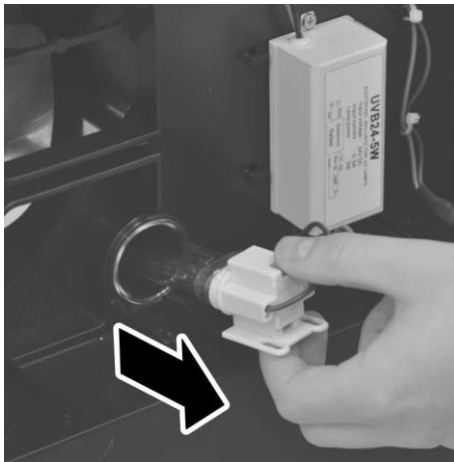

Fig. 34: Removing the UV lamp
4. Carefully remove the lamp holder from the back (Fig. 34).